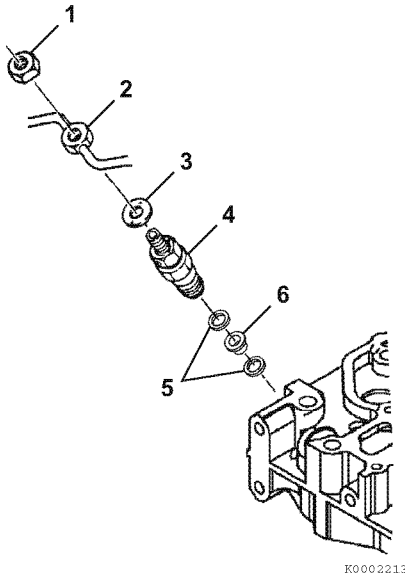

Figure 7-38
4. Remove nut (**Figure 7-38, (1)**). Remove the fuel return line (**Figure 7-38, (2)**) and copper washer (**Figure 7-38, (3)**) from the fuel injectors. *See Removal of Fuel Return Line on page 7-13.*
5. Remove the fuel injectors (**Figure 7-38, (4)**).
6. Remove the injector nozzle gaskets (**Figure 7-38, (5)**) and protector (**Figure 7-38, (6)**) from the cylinder head.